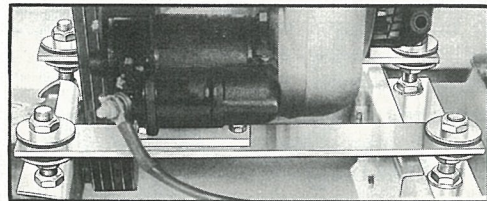

Figure 42
NOTE: To remove the tension on the belts, loosen the (4) adjusting nuts on the motor mount bolts. See fig. 42.